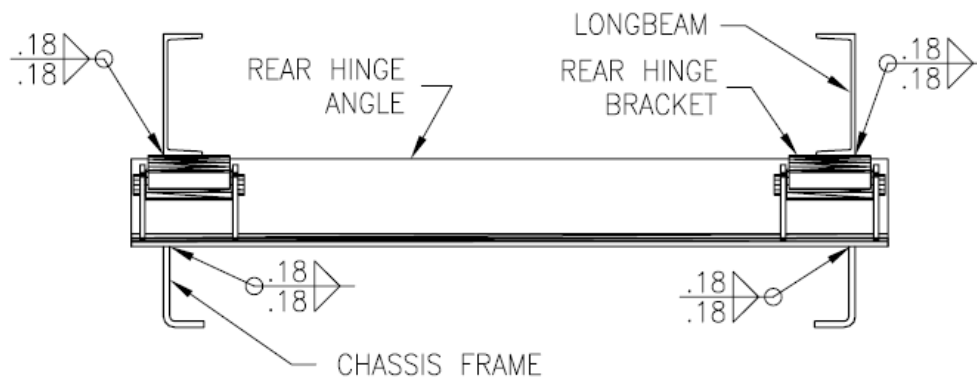

FIGURE 6
10. Position the rear hinge brackets against the long beams. Once in position, weld the rear hinge brackets to the body long beams as shown in Figure 6.